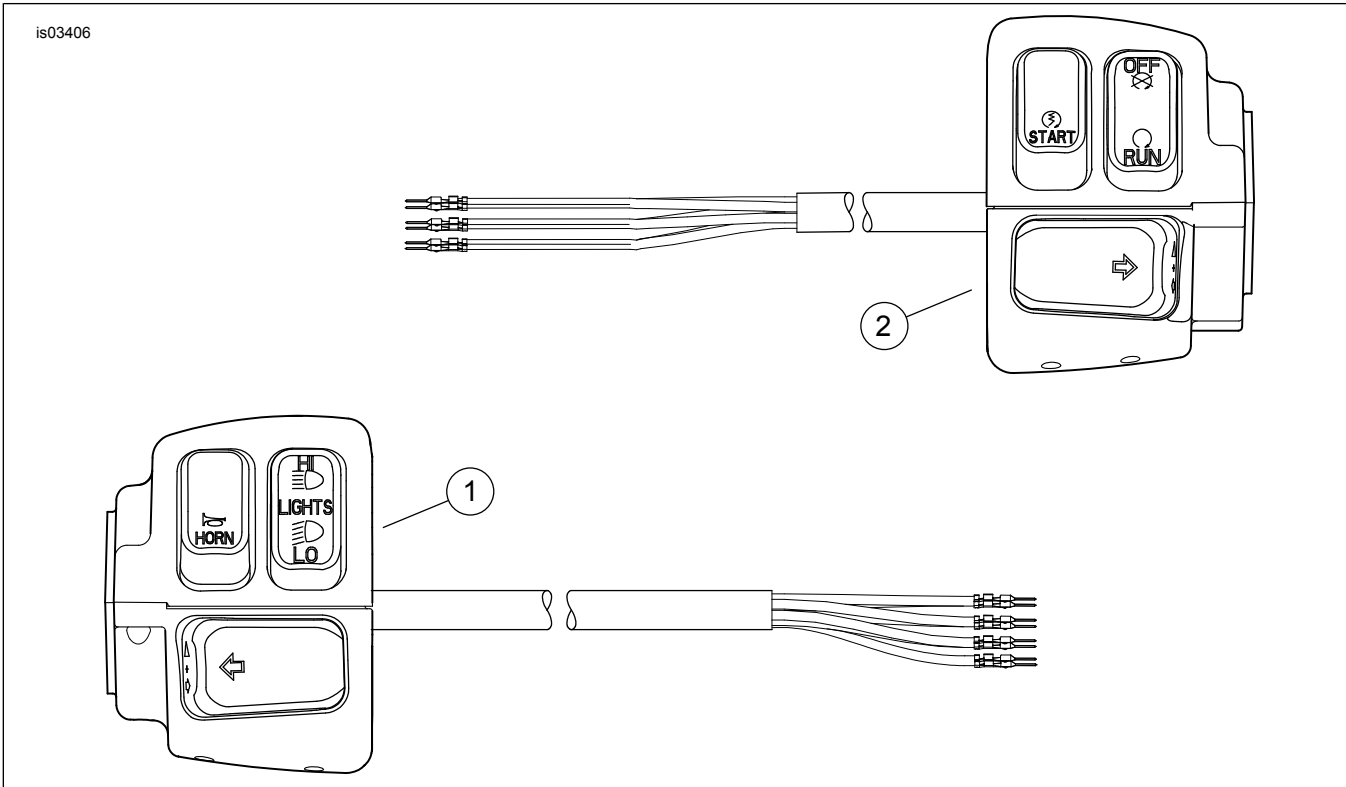

Figure 2. Service Parts
3. See Figure 2. Select the new Right Handlebar Control and Harness Assembly (2) from the kits.
3. See Figure 2. Select the new Left Handlebar Control (1) and Harness Assembly from the kits.